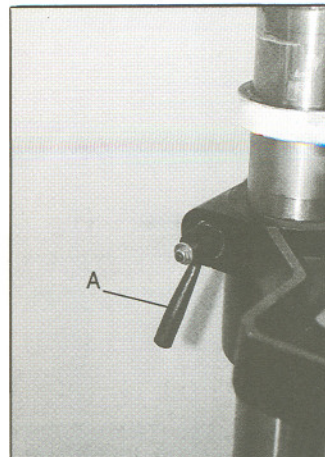

Fig. 3
1. Unlock the table by loosening handle (A, Fig. 3).